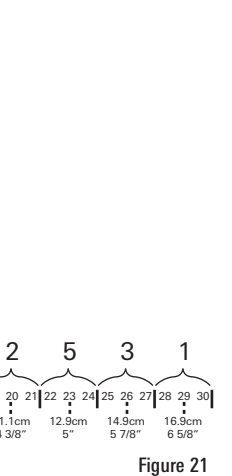
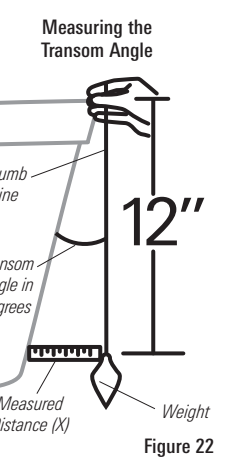

Figure 21
Figure 22
- 1a. If you already know your transom angle, refer to the chart below for the initial position to use to set the ratchets (Figure 21). If your transom is angled at 14 degrees (a common transom angle for many boats) use position 1 for the ratchets. In either case, go to step 2.
- 1b. If you do not know your transom angle, measure it using a plumb line (weighted nylon string or monofilament line) exactly 12 inches long. Hold the top of the plumb line against the top of the transom with your finger, and wait until the line hangs straight down (Figure 22). Using a ruler, measure the distance from the bottom of the plumb line to the back of the transom, then use the chart (Figure 21).
NOTE: It is important to take your measurement in the location shown in Figure 22, from exactly 12 inches down from the top of the transom.